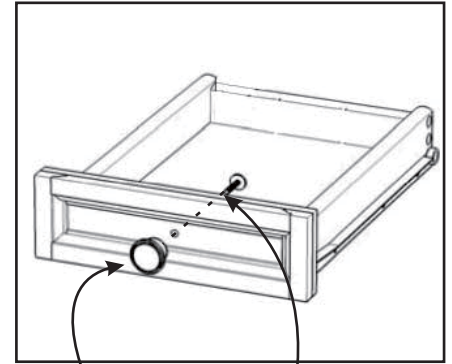

Figure 7
Remove the Drawers in Top Unit (A), attach Knobs with Machine Screws. (See Figure 7)